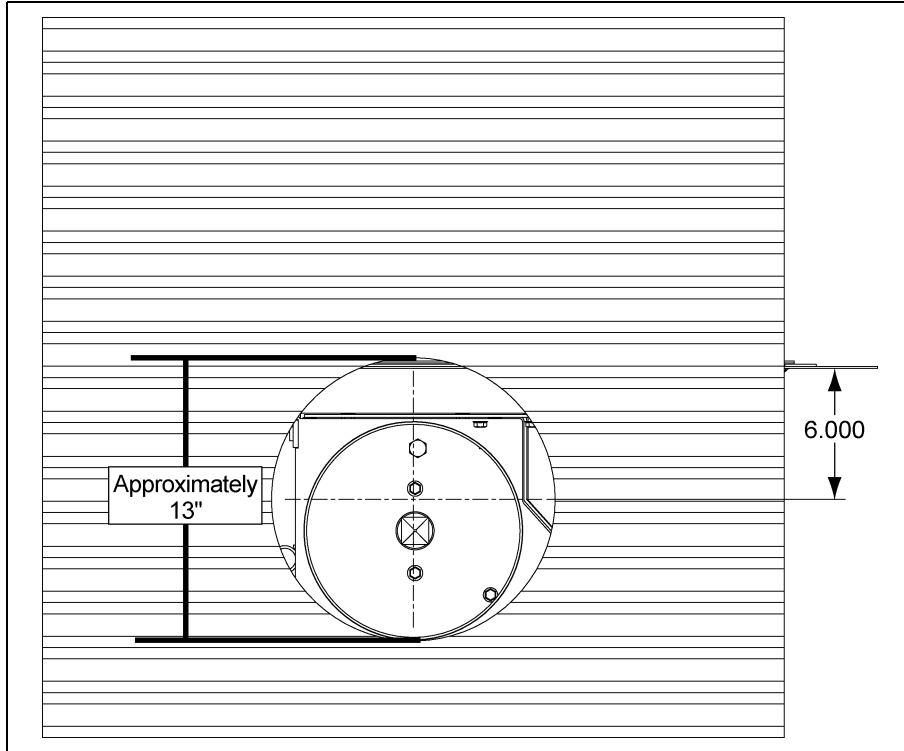
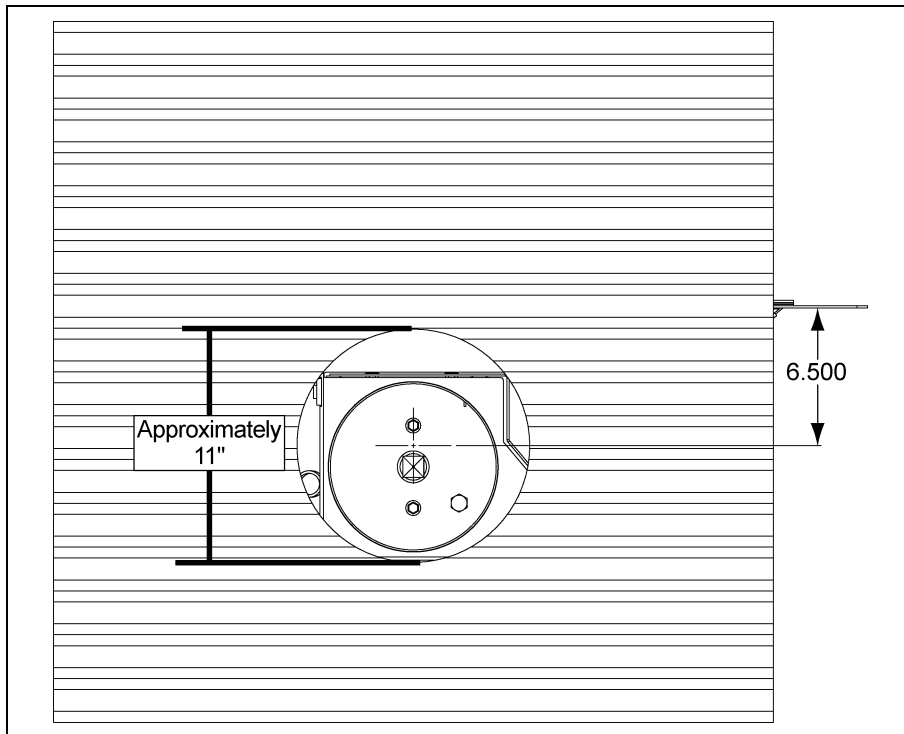
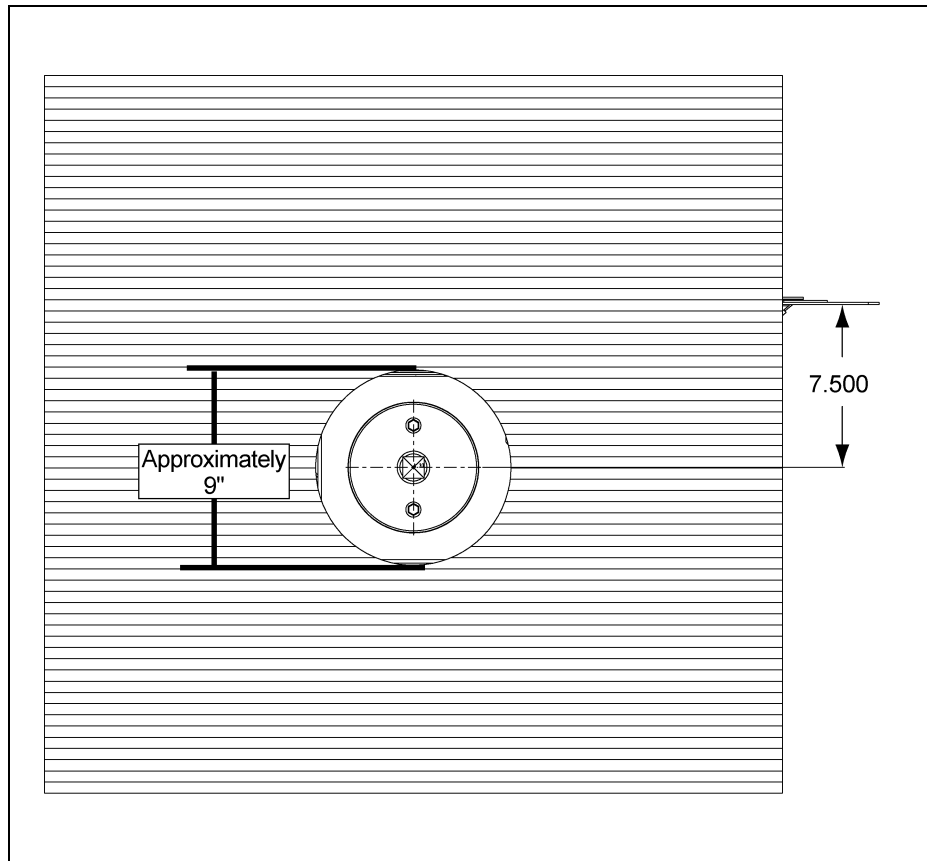

Figure 4E
Figure 4F 8" Tube
Figure 4G 6" Tube
1. Cut an opening in the bin wall for the unloading tube to pass through. *See Chart below for hole information. Additional views of the holes can be found in Figure 4E, Figure 4F and Figure 4G.*